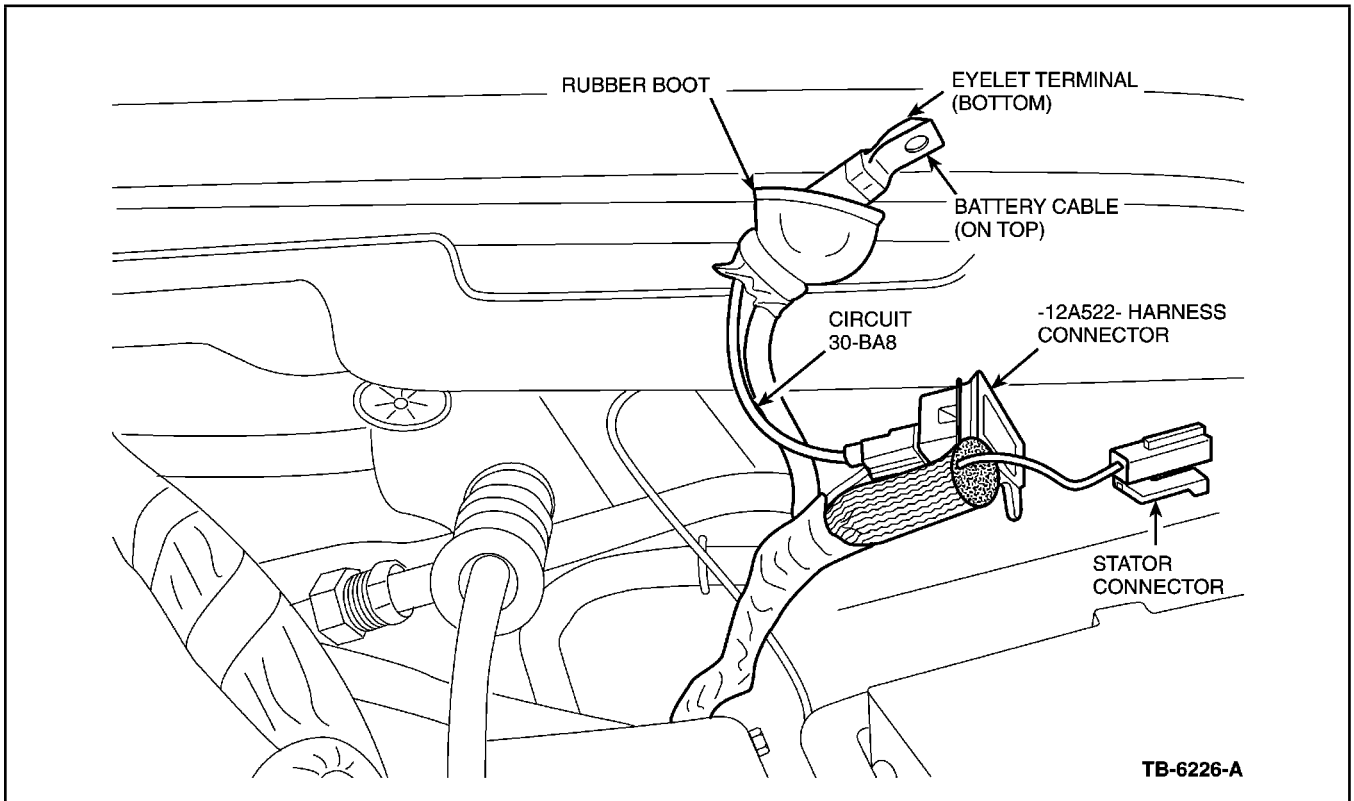

Figure 2 - Article 00-25-6
14. Slide eyelet terminal through rubber boot on battery cable such that the new terminal is on the bottom (Figure 2).